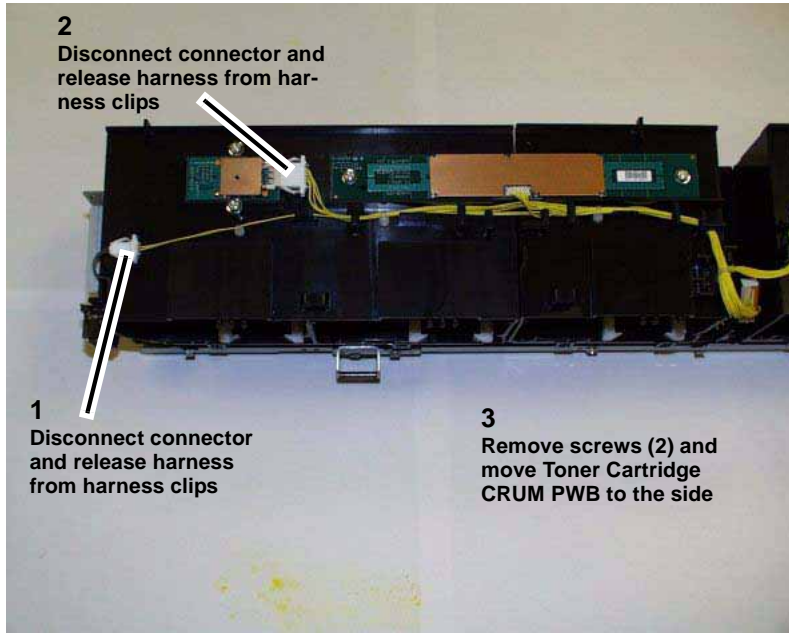

Figure 3 Removing the Toner Cartridge CRUM PWB
4. Remove the Toner Cartridge CRUM PWB (K) (Figure 3).